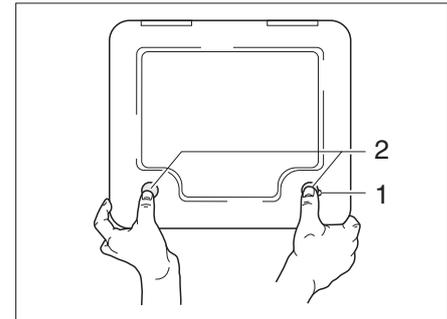

Fig. 105 Flap for the toilet cassette
- ▶ Open the flap for the cassette on the outside of the vehicle. Insert the key into the locking cylinder of the push-button lock (Fig. 105,1) and turn a quarter turn.
- ▶ Press both push-button locks (Fig. 105,2) simultaneously with your thumb and open the flap for the cassette.